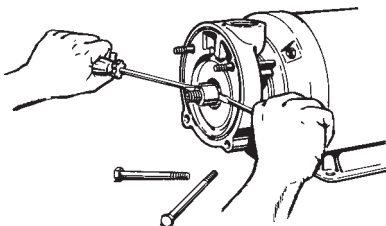

Figure 4-9
f. Holding the screwdrivers at approximately 3 o'clock and 9 o'clock, push the handles in toward the motor body, using the motor bracket for leverage. Refer to Figure 4-9. This procedure usually does not require excessive force. Care should be taken not to damage the hub or motor shaft.